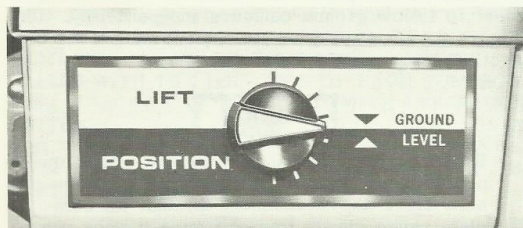

Figure 9
9. Depth Indicator Gauge. Allows operator to locate original height or depth of attached implement. (See Figure 9.)
Located on the instrument panel is a depth indicator gauge which is used in conjunction with the lift lever. Lower the attached implement to its desired height or depth, and manually turn the indicator gauge to the ground level position indicated in Figure 9. Thus this gauge allows the operator to raise the attachment for maneuvering and assure him of returning attachment to the same height or level he was operating it at. By visually observing the depth indicator when lowering an attachment, the lift lever can be released when indicator reaches the original desired or ground level setting. **NOTE:** Study each attachment owner manual for additional information on DEPTH GAUGE INDICATOR.